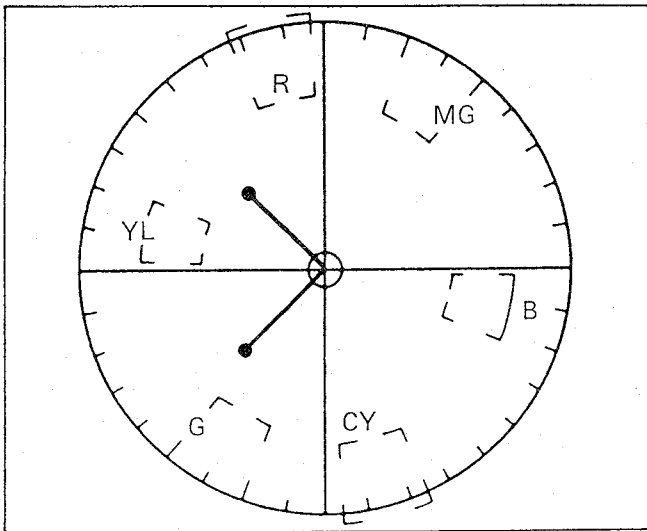

Fig. C17
5. Push "INC" or "DEC" so that vector comes to centre as shown in Fig.C17.
10. Push "INC" or "DEC" so that vector comes to centre as shown in Fig.C17.